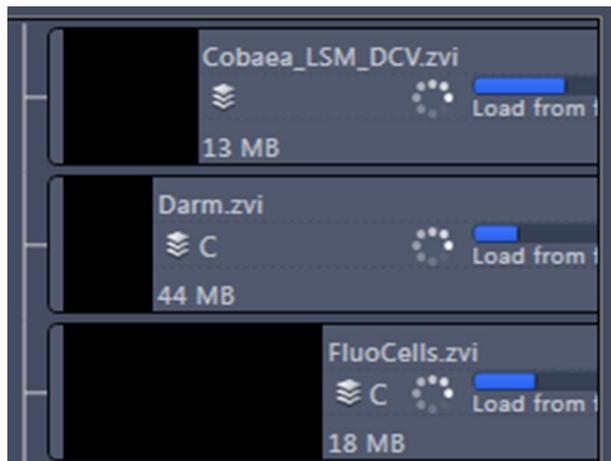

Fig. 389 Image progress bar
- A progress bar (Fig. 389) is shown for each image facilitating the overview if e.g. many processing functions are running at the same time.